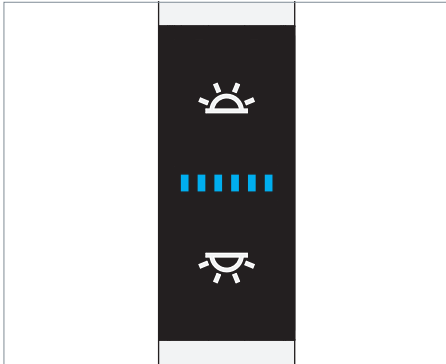

Fig. 11: Operating element.
- ▶ Press the upper switch, see Fig. 11.
- ▶ Press the lower switch, see Fig. 11.
- ▶ Press the lower switch and keep it depressed, see Fig. 11.
- ▶ Press the upper switch and keep it depressed for at least one second, see Fig. 11.
- ▶ Press the upper switch and keep it depressed for at least one second or switch VTL off and on again, see Fig. 11.